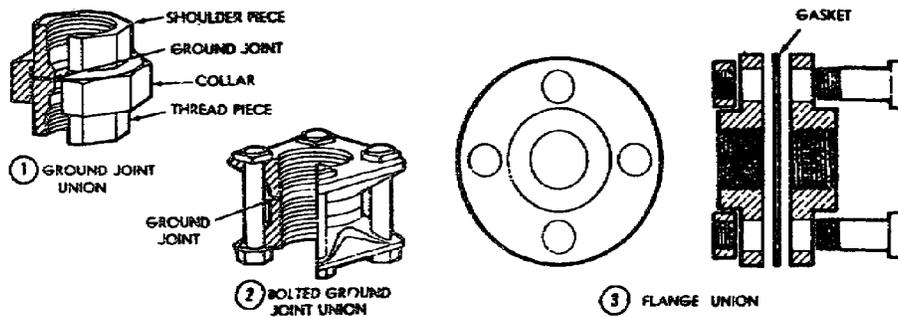

Figure 4. Iron pipe unions.
e. Unions. The ground joint and flange unions are the two most common types of iron pipe unions. Both are used to join two pipes. The ordinary ground joint union (1, fig 4) has a shoulder piece with female threads, thread piece with female and male threads, ring or collar with an inside flange which matches the shoulder of the shoulder piece, and a female thread matching the male thread of the thread piece. The shoulder and thread pieces have a ground spherical joint. The pipes are screwed to the thread and shoulder pieces. Both pieces are drawn together by the collar, making a gastight and watertight joint. Another type of ground joint union (2, fig 4) is made in two parts, each of which is screwed to the pipes to be joined and then drawn together by nuts and bolts. The flange union (3, fig 4) has two parts, each with a female thread, which are screwed to the pipes to be joined. Nuts and bolts pull the flanges together. A gasket between the flange a makes a gastight and watertight joint. Plain faced flanges are shown; they may have male and female faces or tongue and groove faces.